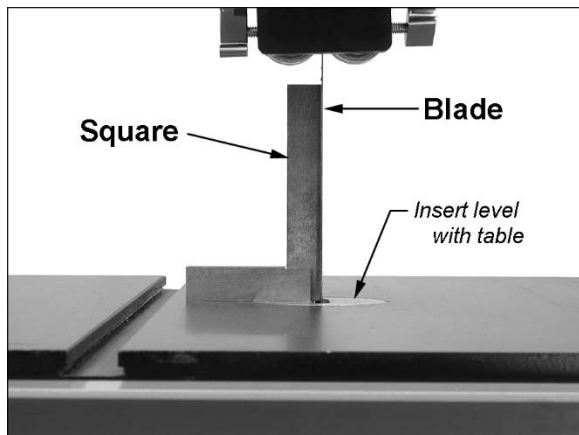

Figure 21: setting table stop
4. Make sure table insert lies flush with table surface. Place a square on table and against blade to check that table is 90° to blade. See Figure 21. NOTE: Do not push square into blade.
5. If table and blade are not square, use a 17mm wrench to loosen lock nut (E) then rotate stop bolt. Turn stop bolt as needed until there is no longer light showing between square and blade.
6. Tighten lock nut (E) to secure table stop position.
7. Tighten lever (A).